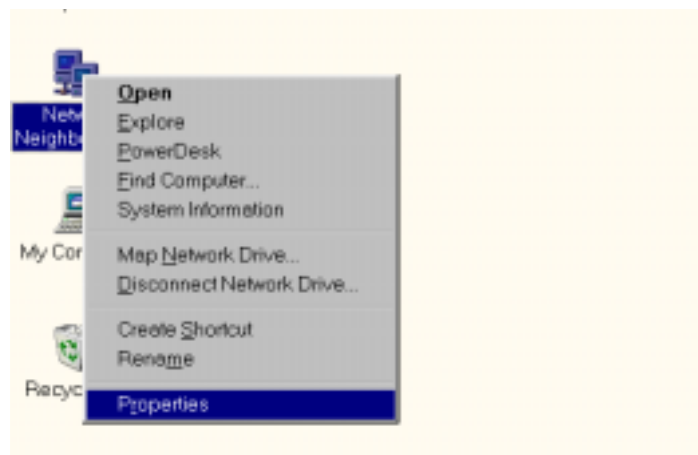

Figure 13-47 Windows Main Menu
2. Right-click on *Network Neighborhood* icon (see Figure 13-47) and click on *Properties*.